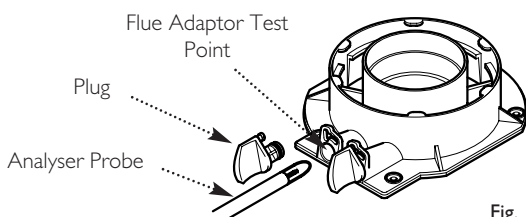

Fig. 108
8. Remove the plug from the flue adaptor test point. Insert the analyser probe and allow time for the reading to settle (Fig. 108).